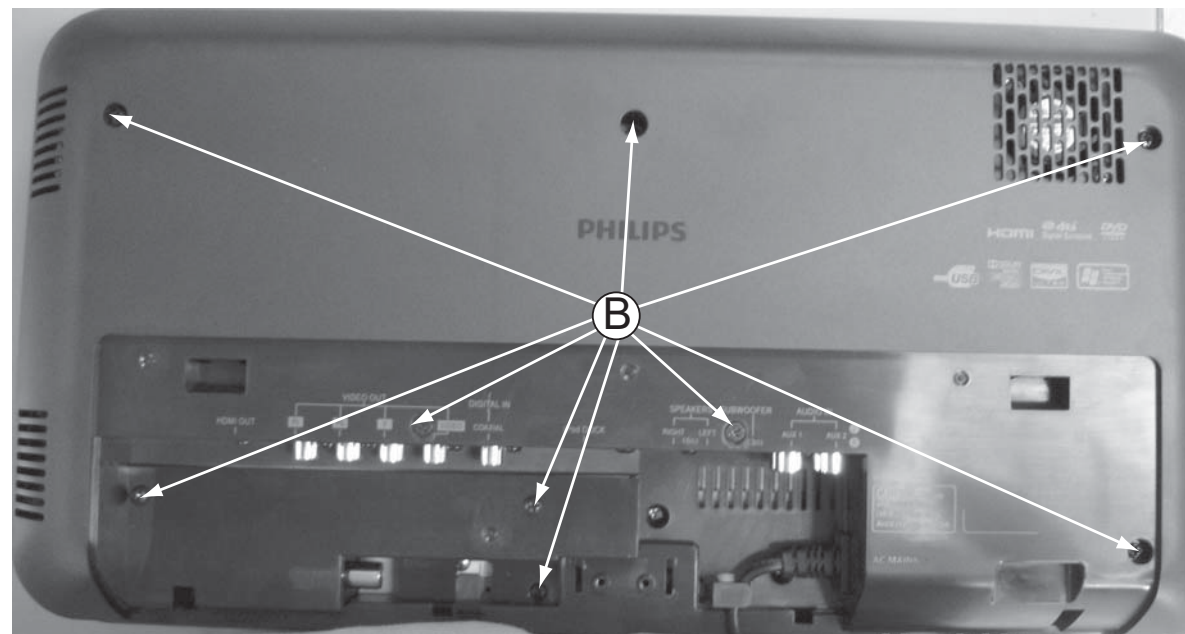

Figure 3
- 3) Loosen 9 screws "B" to remove rear panel as shown in figure 3.